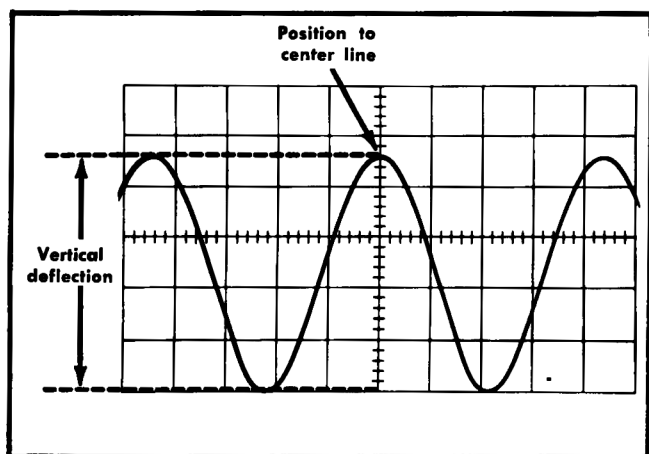

Fig. 2-19. Measuring peak-to-peak voltage of a waveform.
6. Turn the vertical POSITION control so the lower portion of the waveform coincides with one of the graticule lines below the center horizontal line, and the top of the waveform is on the viewing area. Move the display with the horizontal POSITION control, so one of the upper peaks lies near the center vertical line (see Fig. 2-19).
Example. Assume a peak-to-peak vertical deflection of 4.6 divisions (see Fig. 2-19) using a $10\times$ attenuator probe and a VOLTS/DIV switch setting of .5.